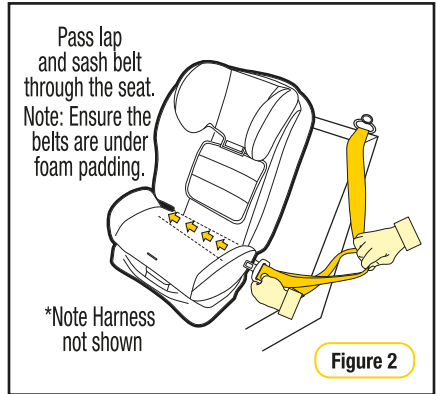

Figure 2
**Step 2:** Adjust the headrest height so that the bottom of the headrest is located level with or just above the child's shoulder (refer Figure 2).
**Step 2:** Feed adult lap or lap/sash belts through the belt path opening, ensure the seat belt is under the cover & between the layer of foam and the plastic seat base. (refer Figure 2 & 3)